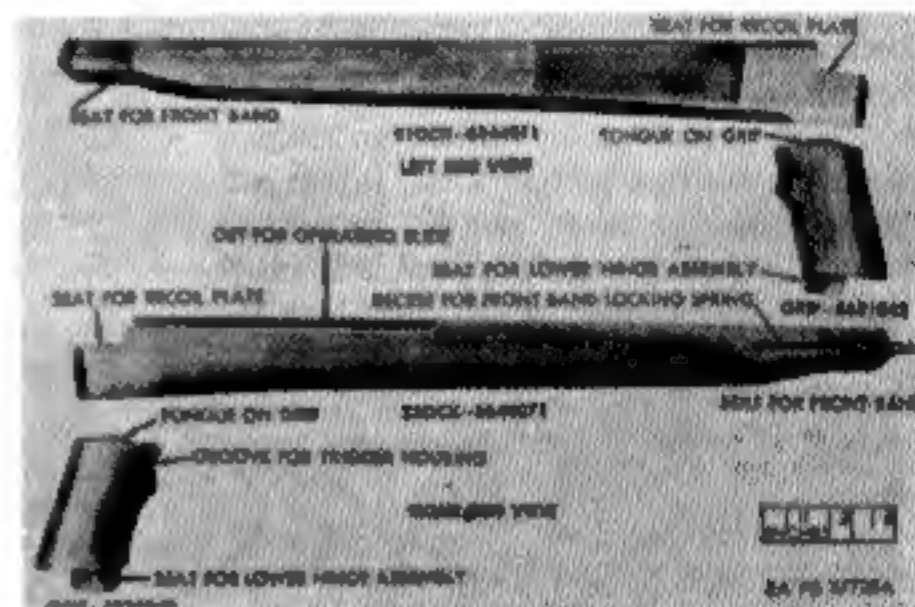

Figure 106. Stock and grip for carbine M1A1.
*a.* Inspect corresponding parts of stock as for carbines M1, M2, and M3 (Figs. 106 and 107). Refer to page 90.